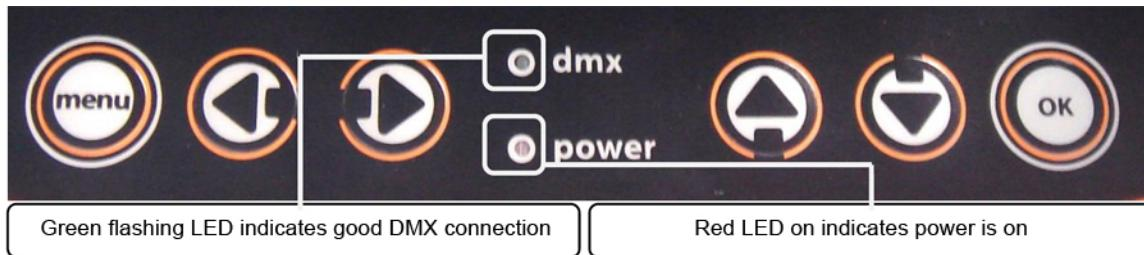

Figure 4-21 Display LCD Panel LEDs
10. Check the LCD Panel on both the Head Box and the Tripod. In both places, both **dmx** and **power** LEDs on the Display LCD panel should be lit. (Figure 4-21)